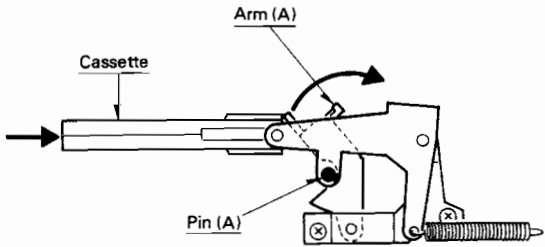

Fig. 1
1. When the Cassette is inserted, Arm (A) moves in the arrowed direction. Pin (A) is for the cassette holder support arm. (Fig. 1).